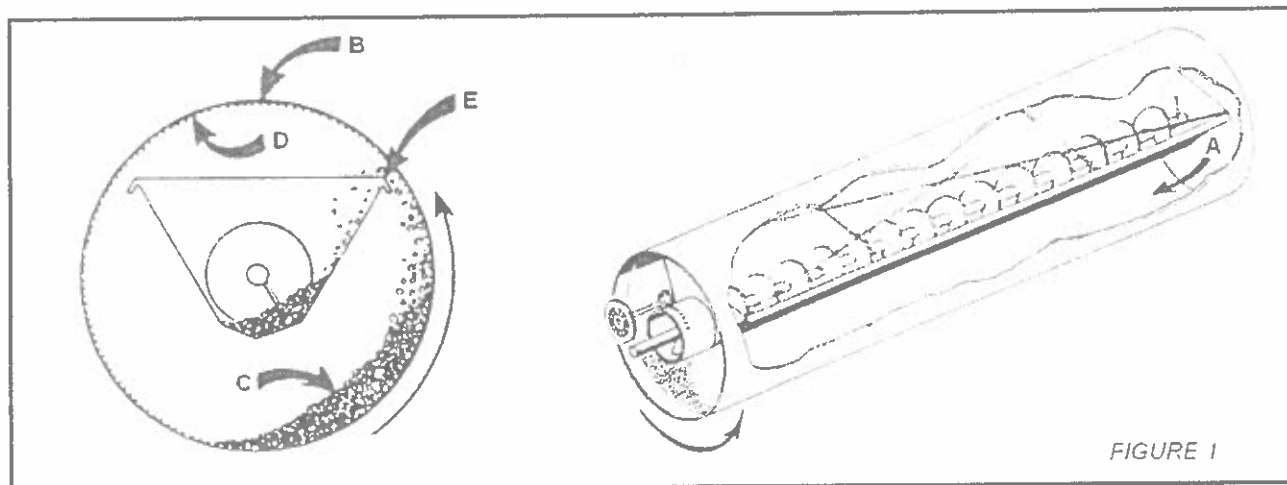

FIGURE 1
Product is choke-fed into feed hopper and is discharged into the rear of the cylinder at (A, Figure 1). The counter-clockwise rotating action and the tapered construction of cylinder (B) cause the movement of product along the inside bottom of cylinder toward the front (discharge) end.